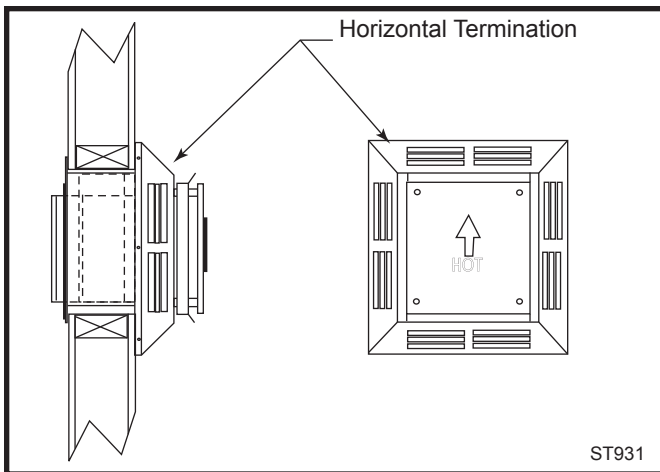
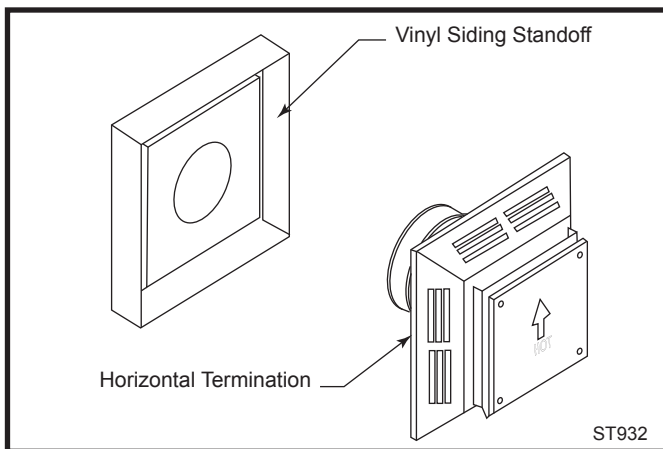

Fig. 41 Horizontal termination.
Fig. 42 Vinyl siding standoff and horizontal termination.
6. Install the horizontal termination to the exterior wall using four (4) all purpose screws through the holes located at each corner of the termination. Make sure the arrow (embossed on the front of the termination) is pointing up. (Fig. 41) If the house has vinyl siding, a Vinyl Siding Standoff (VS) must be installed prior to installing the horizontal termination. Refer to the appliance manufacturer to determine if one is recommended. Attach the vinyl siding standoff to the exterior side of the wall (making sure it is level and centered with respect to the opening) with screws (provided) at each corner of the standoff. Attach the horizontal termination to the standoff. (Fig. 42)